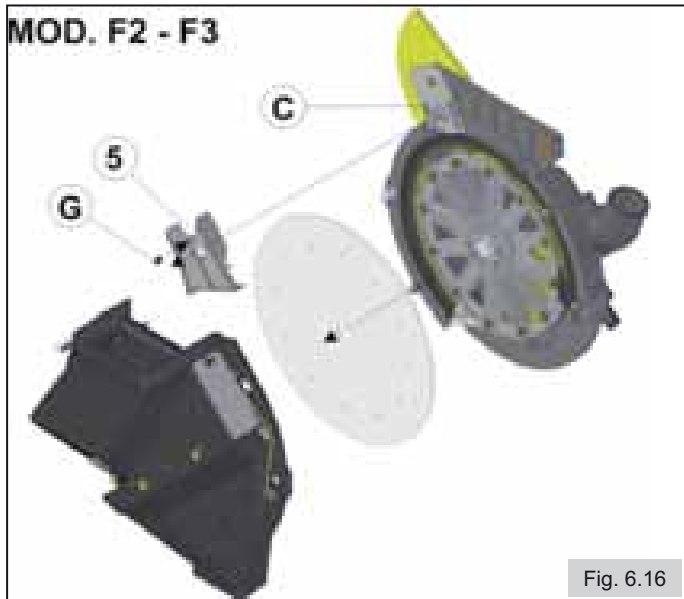

Fig. 6.16
- Once the disc has been inserted insert selector 5 by fixing it with pin G in hole C. (Fig.6.16)
- After inserting the disc and the selector close the distributor by means of the lid. Fix the lid to the bolts making sure the little cylinder presses the selector and not the disc (Fig.6.16).